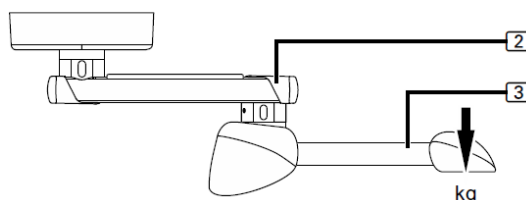

Fig.21 Load application point
The maximum load capacity is the maximum weight that can be supported by the arm or set of arms, in the case of the example shown in Figure 21 a configuration with one extension arm (2) and one motorised arm (3) is shown. The maximum load is counted as applied on the vertical axis about which the service head will rotate.